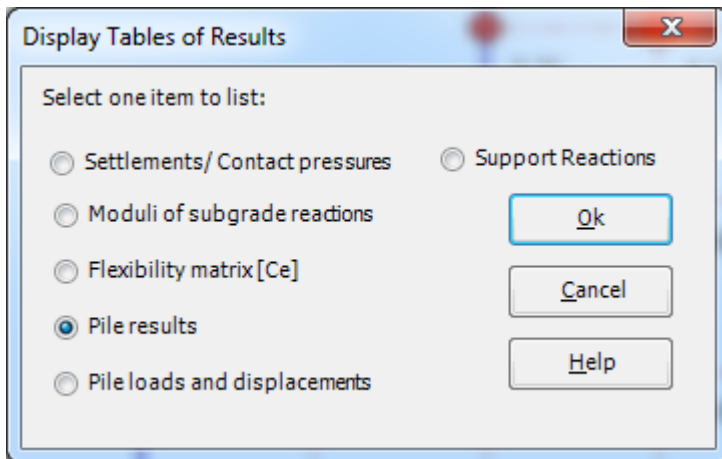

Figure 11.39 "Display tables of results" option box
- Choose "Display tables of results" command from "List" menu in the "Result" Tab. The following option box in Figure 11.39 appears